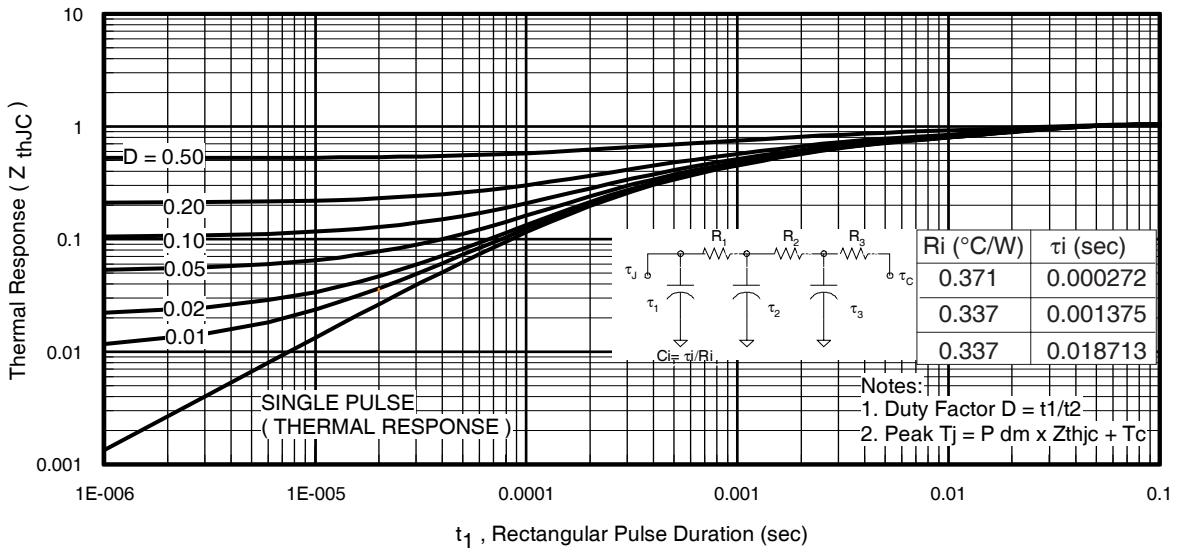

Fig 11. Maximum Effective Transient Thermal Impedance, Junction-to-Case
- ① Repetitive rating; pulse width limited by max. junction temperature. (See fig. 11).
- ② Limited by T_{Jmax} , starting $T_J = 25^{\circ}C$, $L = 0.04mH$, $R_G = 25\Omega$, $I_{AS} = 75A$, $V_{GS} = 10V$. Part not recommended for use above this value.
- ③ Pulse width $\leq 1.0ms$; duty cycle $\leq 2\%$.
- ④ C_{oss} eff. is a fixed capacitance that gives the same charging time as C_{oss} while V_{DS} is rising from 0 to 80% V_{DSS} .
- ⑤ This value determined from sample failure population, starting $T_J = 25^{\circ}C$, $L = 0.04mH$, $R_G = 25\Omega$, $I_{AS} = 75A$, $V_{GS} = 10V$
- ⑥ This is applied to D²Pak, when mounted on 1" square PCB (FR-4 or G-10 Material). For recommended footprint and soldering techniques refer to application note #AN-994.
- ⑦ R_{θ} is measured at T_J approximately 90°C.
- ⑧ This is only applied to TO-220AB package.
- ⑨ Calculated continuous current based on maximum allowable junction temperature. Bond wire current limit is 75A. Note that current limitations arising from heating of the device leads may occur with some lead mounting arrangements. (Refer to AN-1140 <http://www.irf.com/technical-info/appnotes/an-1140.pdf>)
$Z_{thJC}(D, t_{av})$ = Transient thermal resistance, see figure 11)